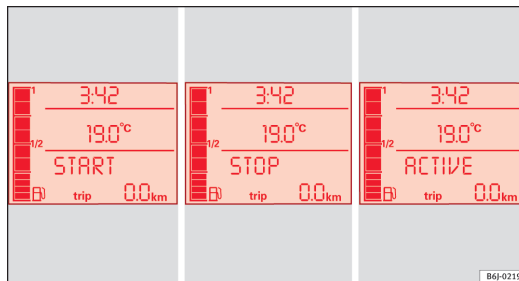

Fig. 110 Display on the instrument panel during Start-Stop function operation.
- The instrument panel display shows information about the status of the Start-Stop function ⇒ Fig. 110. ▶